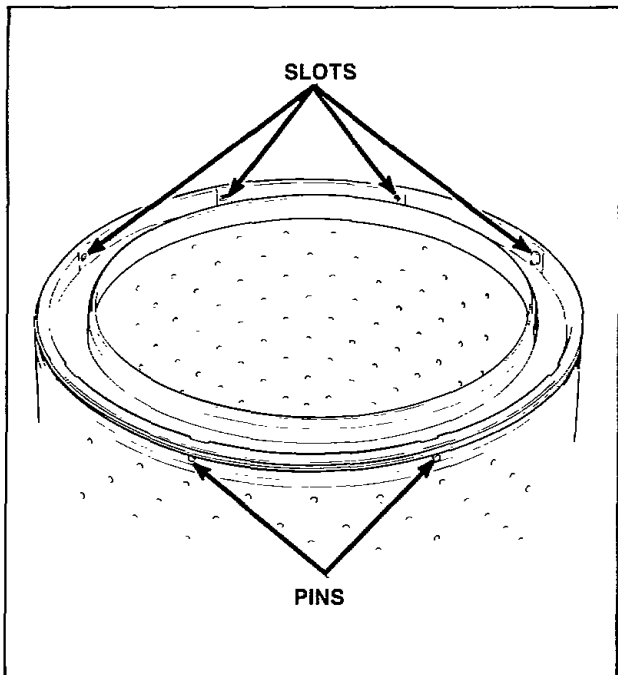

Figure 33
- Place a small screwdriver in behind the slots provided in the lint filter, *Figure 33*.
- Carefully pry the pins of the lint filter out of the holes in the washtub, *Figure 33*.